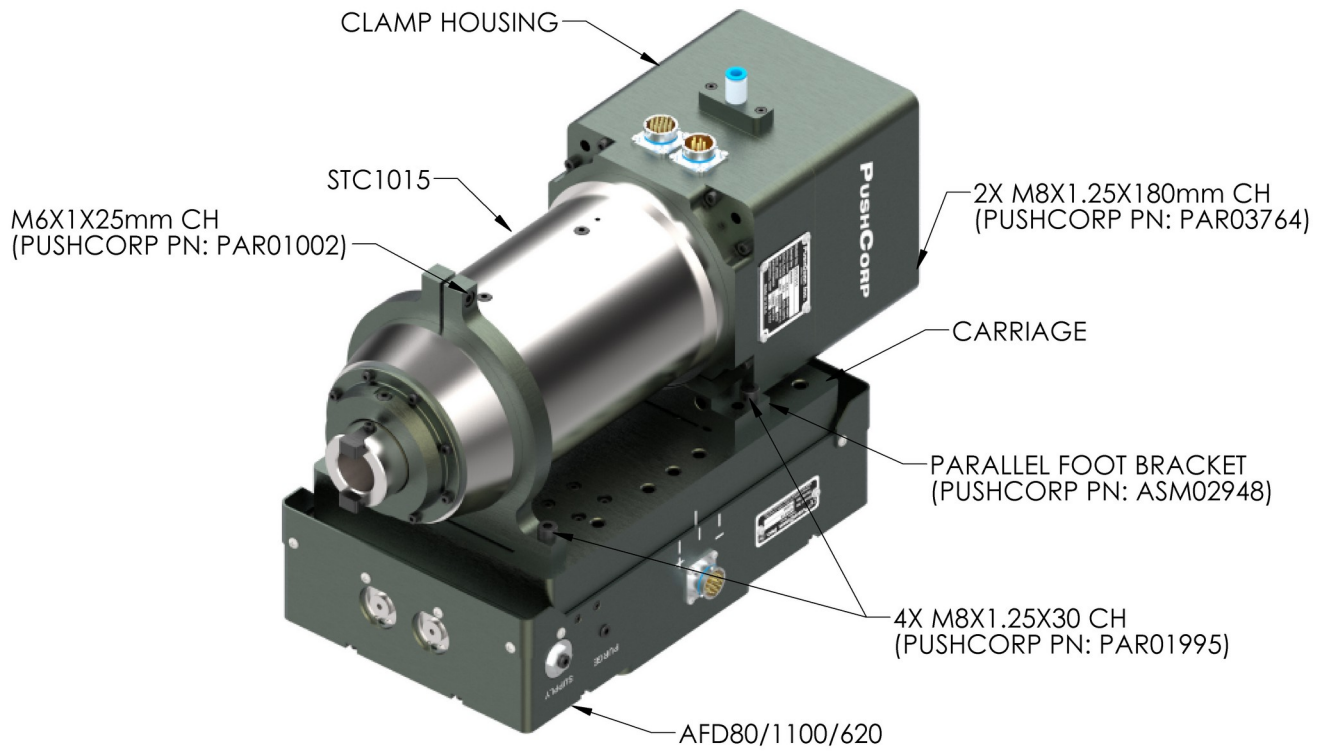

Figure 2: STC1015 Parallel-Axis Configuration
For the Parallel-Axis configuration, shown in Figure 2, the 1015 attaches to the AFD Carriage with two brackets and four (4), M8x1.25x25mm, Socket Head Cap Screws. The 1015 is positioned on the Carriage with the Foot Bracket while the Front Bracket is attached to the forward mounting holes. The Clamping Screw on the Front Bracket should be loose to allow sliding movement along the motor. Attach the Foot Bracket to the Clamping Housing using two (2), M8x1.25 Socket Head Cap Screws. When the desired position is achieved secure the brackets to the Carriage, and tighten the Clamping Screw. The M8x1.25, Socket Head Cap Screws, must be the proper length and tightened to the torque specified in Section 4.0.